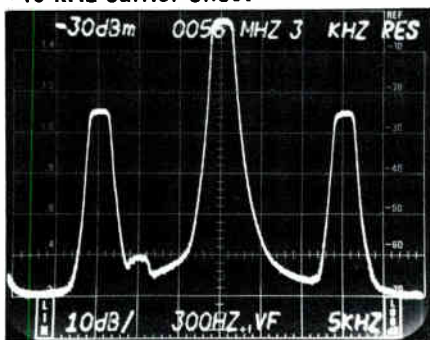

Figure 6-4 Low level interference measurements can be made using storage, slow sweeps and video filtering
1. The use of video filters and slow-sweep speeds coupled with CRT or digital storage produces very clean traces (figure 6-4). The digital storage capability of the 7L14 is very effective in the co-channel interference measurement. Slow the sweep, use a video filter and position the PEAK/AVERAGE cursor at the top of the screen so the entire display is in the AVERAGE mode.
3. Co-channel carriers can occur on either side of the picture carrier and as far away as 20 kHz depending on station offset as illustrated in figures 6-4 and 6-5.